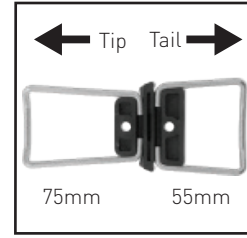

Figure 1
- With the bend in the climbing wires facing up, place the 75mm Climbing Wire into the narrower forward slot of the Heel pad. Place the 55mm Climbing Wire into the rear slot of the Heel pad. (see figure 1)